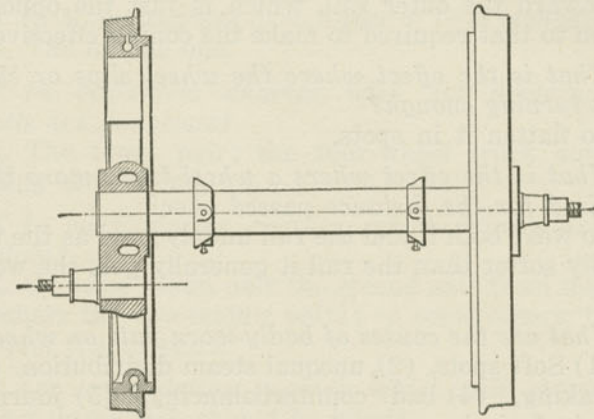

Fig. 234. Wheel-centering to permit Gage-narrowing.
A. The wheel center should be made wider than necessary, and the tire set to conform to the present gage; then when it is desired to narrow the gage the tire may be moved further in, and the projection thus left on the outside of the wheel center turned off. This is shown in Fig. 234.